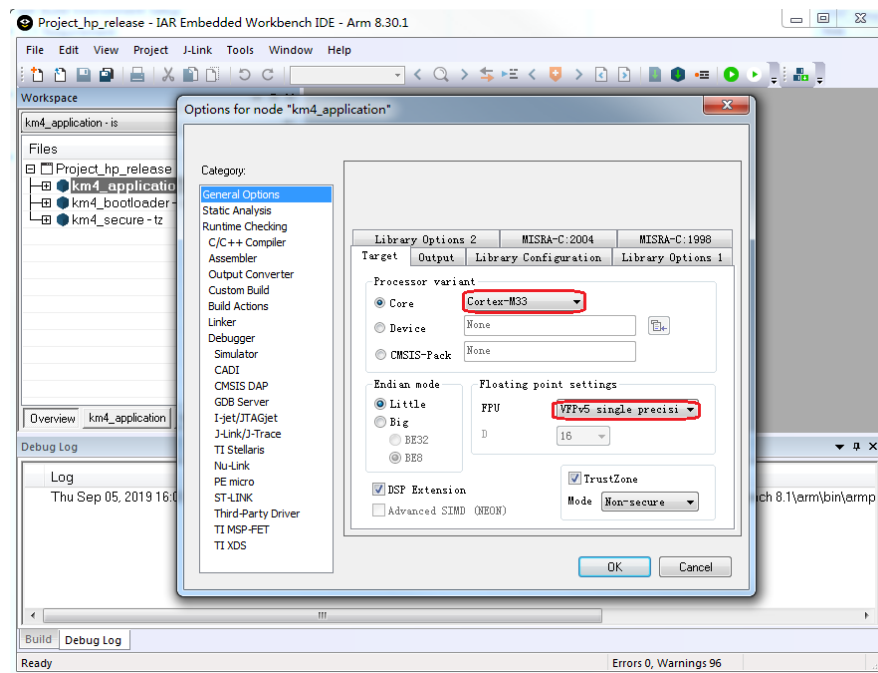

Fig 4-3 KM4 processor options
- (1) Open **amdb_amazon-freertos\projects\realtek\amebaD\IAR\aws_demos\Project_hp_release.eww**.
- (2) Refer to 4.3.1 and choose the build configurations for each project according to your application.
- (3) Click **Project > Options, General Options > Target > Processor Variant > Core**, verify the CPU configurations according to Fig 4-3.